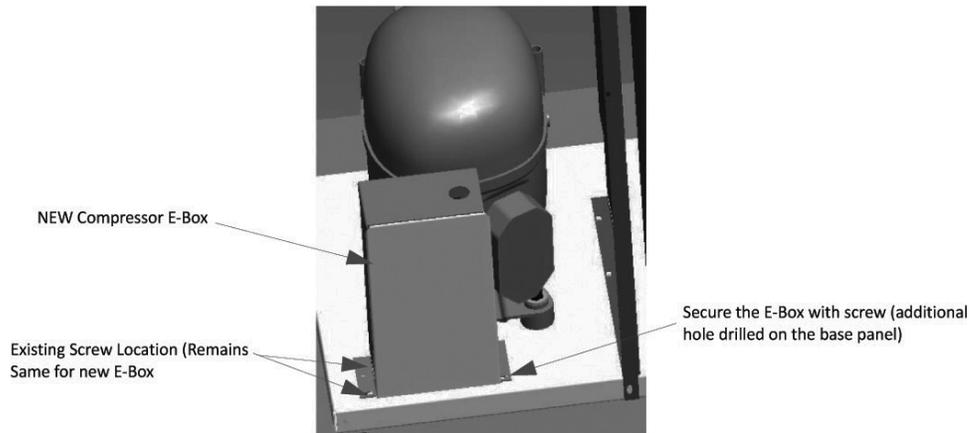

Figure 10. Installation of New Compressor E-Box
12. Install the new compressor E-Box on the base frame. Refer Figure 10.